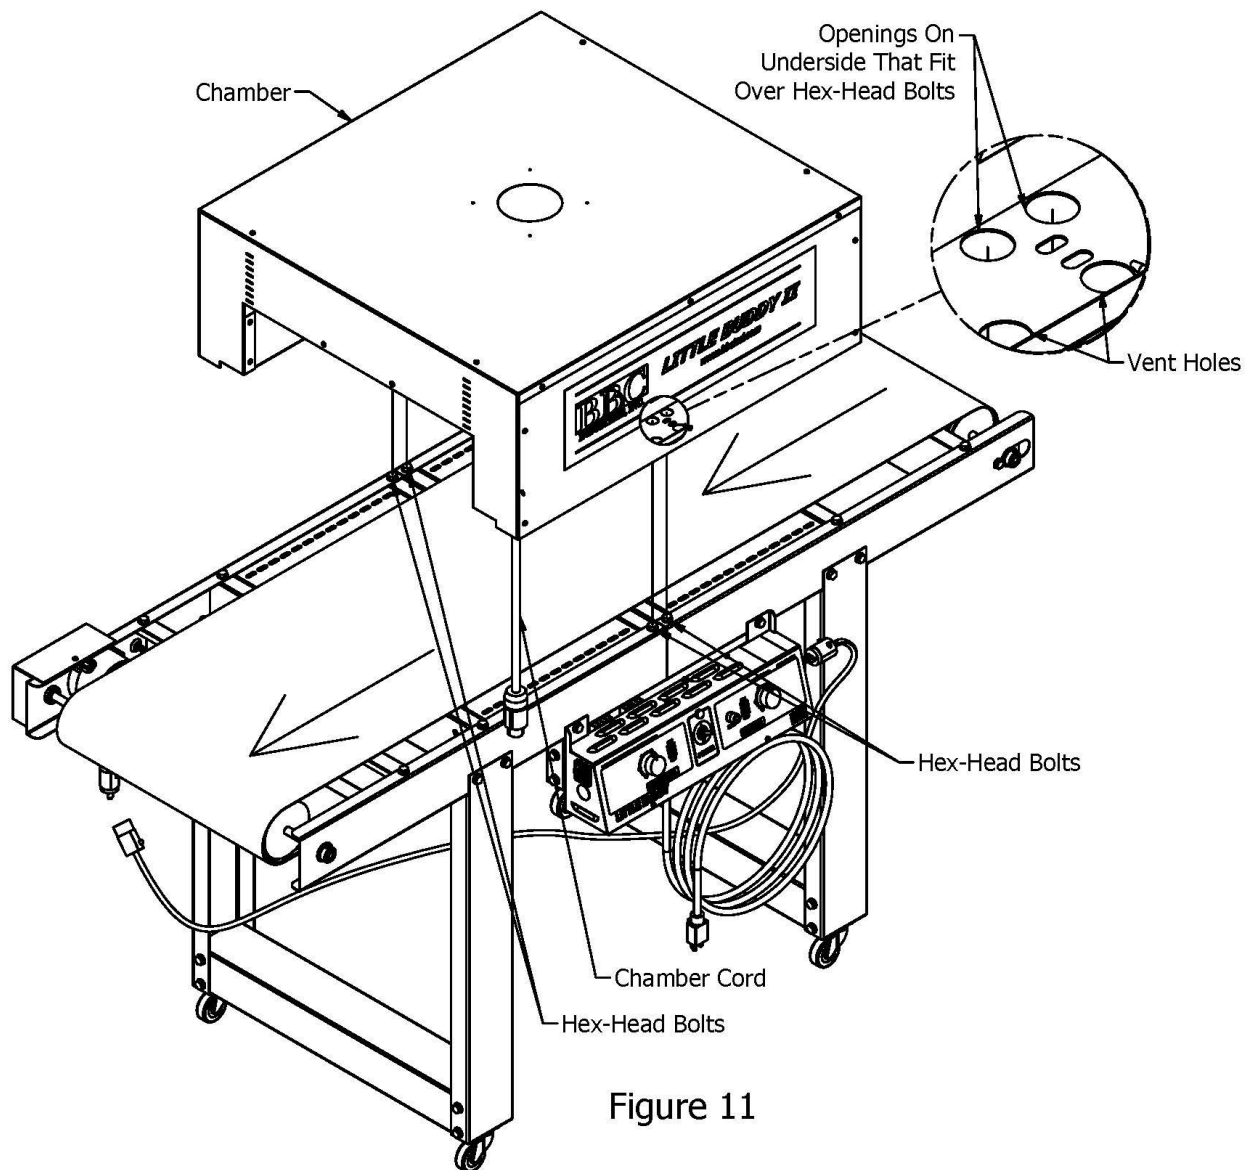

Figure 11
1. **Using two people** set the chamber onto the conveyor bed. (See Figure 11) The Heating Chamber cord must be on the same side of the Conveyor Bed as the Control Panel.
2. The Heating Chamber has openings on the underside rails that fit over the hex-head bolts. (See Magnified View, Figure 11) The chamber should rest flatly on the conveyor bed.